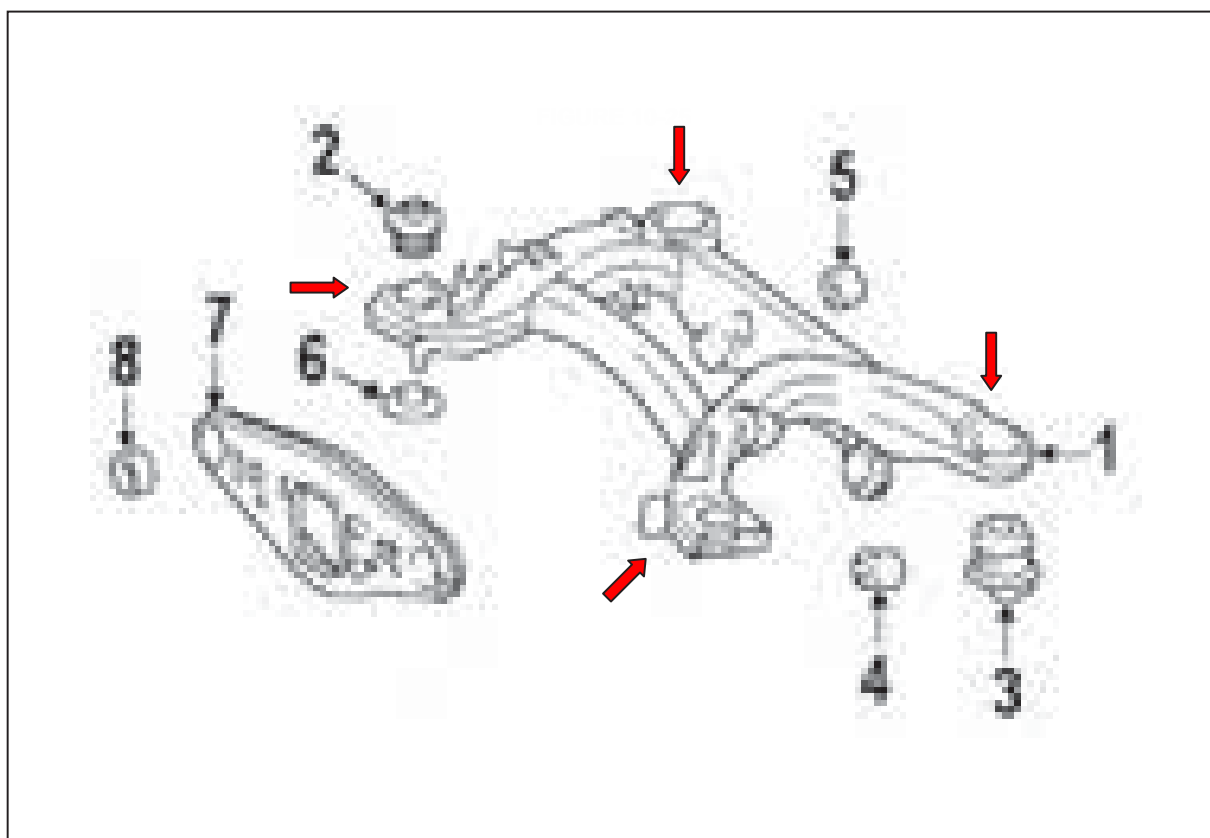

FIGURE 10-25
28.0 THE REAR CROSSMEMBER BOLT POINTS. (FIGURE 10-25)